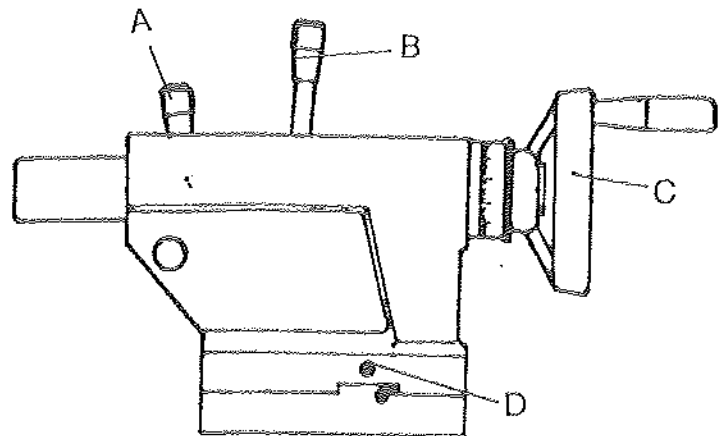

Fig. 13
17. **Tailstock Quill Clamping Lever** (A, Fig. 13) - located on the tailstock. Lift up to lock the spindle. Push down to unlock.
18. **Tailstock Clamping Lever** (B, Fig. 13) - located on the tailstock. Lift up lever to lock. Push down lever to unlock.
19. **Tailstock Quill Traverse Handwheel** (C, Fig. 13) - located on the tailstock. Rotate clockwise to advance the quill. Rotate counter-clockwise to retract the quill.
20. **Tailstock Off-Set Adjustment** (D, Fig. 13) - two hex socket cap screws located on the tailstock base are used to off-set the tailstock for cutting tapers. Loosening one screw while tightening the other off sets the tailstock.